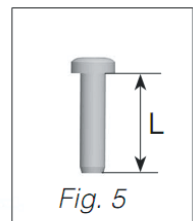
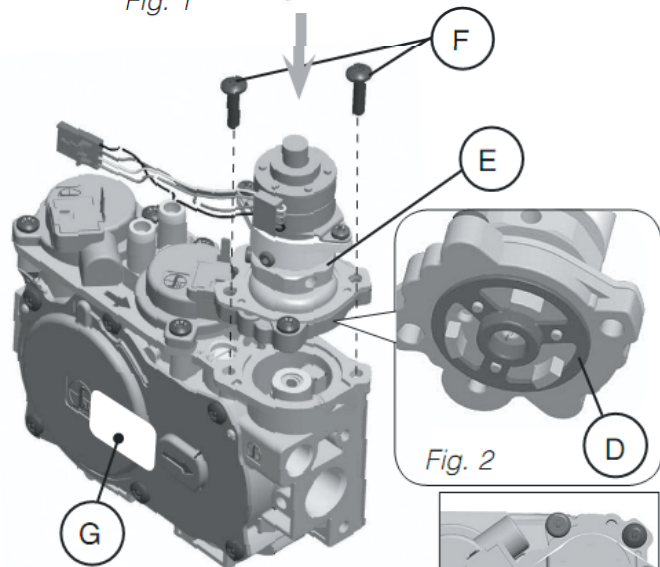
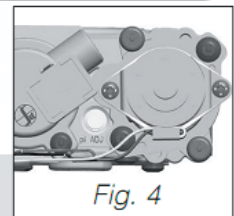

Fig. 5
Fig. 3
Fig. 4
- 4** Install the new STEPPER MOTOR pressure regulator assembly, as shown in Fig. 3 and Fig. 4. Use the supplied screws (F), M4 x 0.7 threaded, length of thread $L=(16\text{ mm} + 0 - 0.5\text{ mm})$, steel material, resistance class 8.8 (see Fig. 5).
The main burner shuts off when the appliance is warm.	<ol style="list-style-type: none"> 1. This may be the normal operation of a wall thermostat installed to appliances. 2. Check for good pilot flames on the flame sensor see Fig.3 "INSTALLATION INSTRUCTIONS cont." on page 15. 3. Check for proper functioning of venting system (including termination for blockage). 4. Check wire connections. Expansion from heat affects a loose connection. 5. Check for adequate grounding from the Module, see "INTERMITTENT PILOT & VALVE cont." on page 17